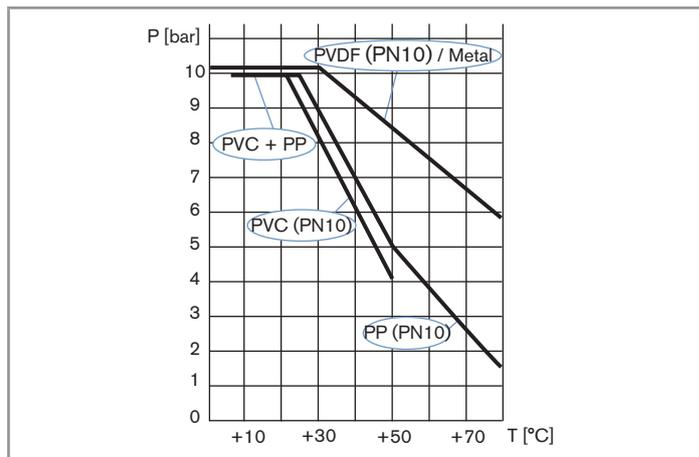
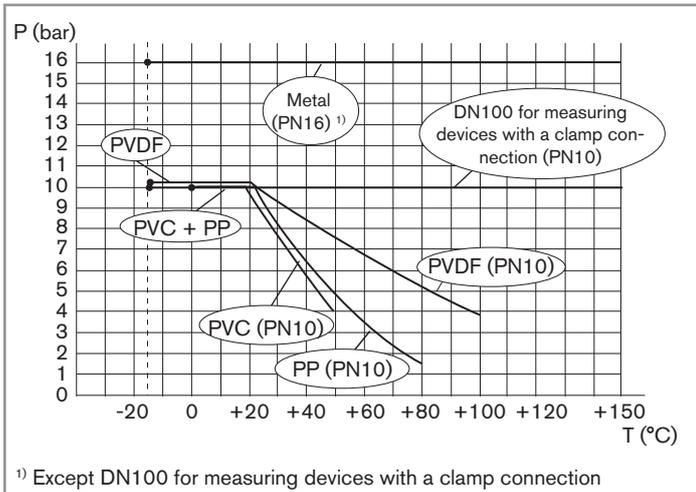

Fig. 5 : Fluid pressure-temperature dependency of the 8041 with a flow sensor holder in PVDF, inserted into an S020 fitting in metal, PVDF, PVC or PP
Fig. 6 : Fluid pressure-temperature dependency of the 8041 with a flow sensor holder in stainless steel, inserted into an S020 fitting in metal, PVDF, PVC or PP
Fluid temperature	The fluid temperature may be restricted by the fluid pressure and the material of the S020 fitting used (see Fig. 5 and Fig. 6)
Fluid pressure	The fluid pressure may be restricted by the fluid temperature, the material of the S020 fitting used and the DN of the S020 fitting used (see Fig. 5 and Fig. 6).
- ▶ Observe the fluid temperature/pressure dependency according to the nature of the material of the fitting used (see Fig. 5 and Fig. 6).